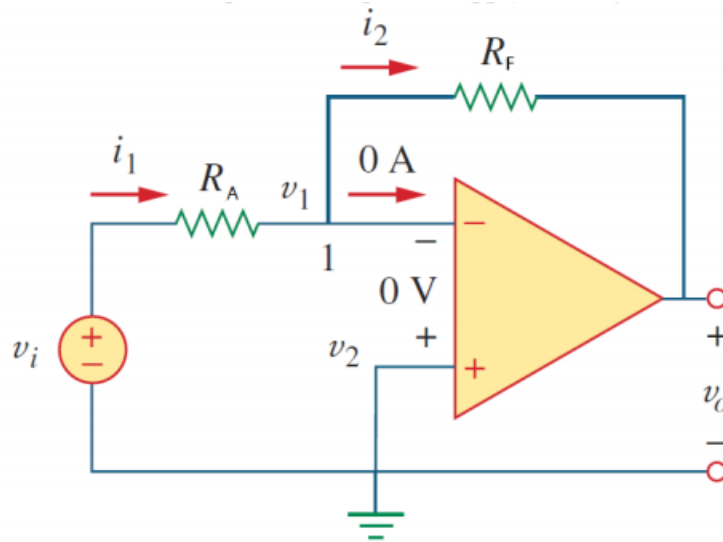

Figure 8. The circuit of inverting amplifier
- a) We should build the circuit according to the diagram below (Figure 8), where  $R_F = 100\Omega$  and  $R_A = 50\Omega$ . We should note that the power supply is going to provide  $+V_{cc}=+5V$  and  $-V_{cc}=-5V$  to the op amp, and we should use the **COM** port on the power supply as the **ground** in the schematic.